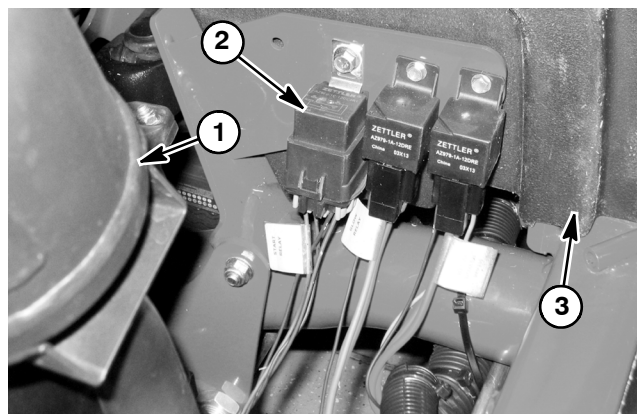

Figure 54
The start relay is used in the engine starting circuit. When energized by the TEC controller, the start relay provides a current path to energize the engine starter solenoid. The start relay has five (5) terminals and is attached to a frame bracket under the hood near the engine exhaust muffler (Fig. 54). Relays can be identified by a tag on the wire harness.